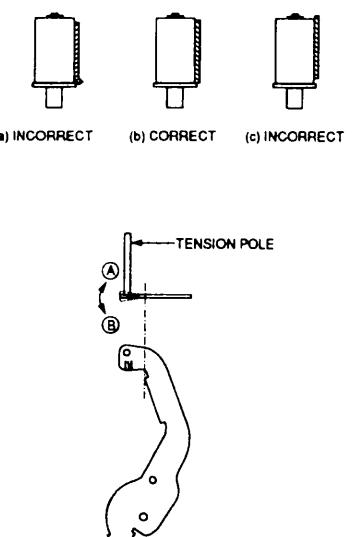

Fig 28.
Confirm that the lower edge of the tape barely touches the lower part of the SUPPLY TAPE GUIDE, without any curl or wrinkle as shown in Fig 28. If necessary, bend the neck part of the TENSION ARM in the (A) or (B) direction slightly until a satisfactory result is achieved.